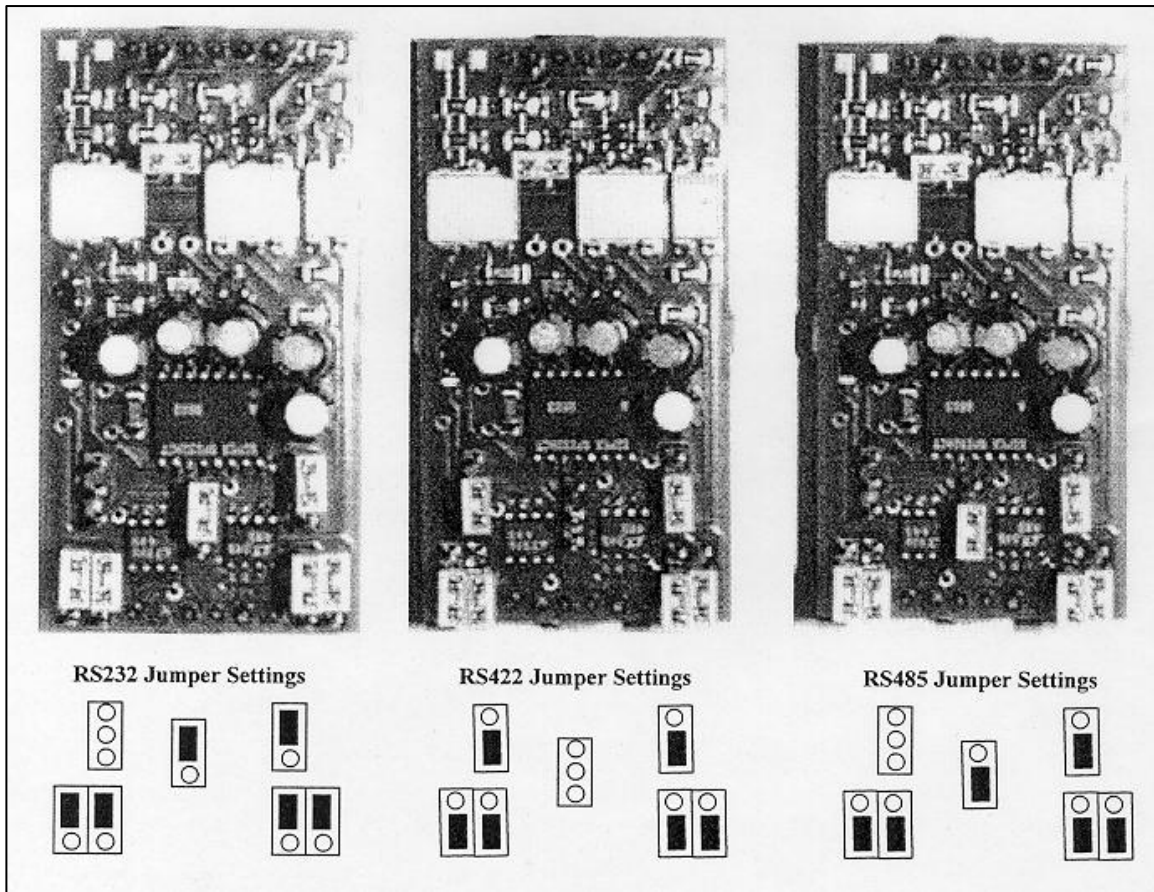

Figure 44. Communication Card Jumper Settings.
4. Set the jumpers on the communication card for the desired serial communication interface based on Figure 44.
3. Set the jumpers on the communication card for the desired serial communication interface based on Figure 44.